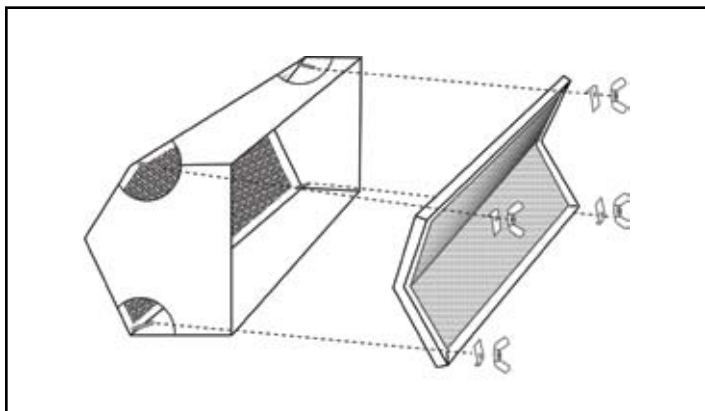

FIGURE 8 - Filter Replacement
- A. Disconnect and lockout power to the unit. Remove unit cover housing by removing screws from the top and bottom of unit. Slide cover housing away from blower assembly to remove. If the unit has a filter, it should be removed and cleaned at this time. The filter is located in the cover housing and held in place by wing nuts and clips. **See Figure 8.**
2. Filter is located in cover housing. Remove wing nuts and clips that hold filter. **See Figure 8.**